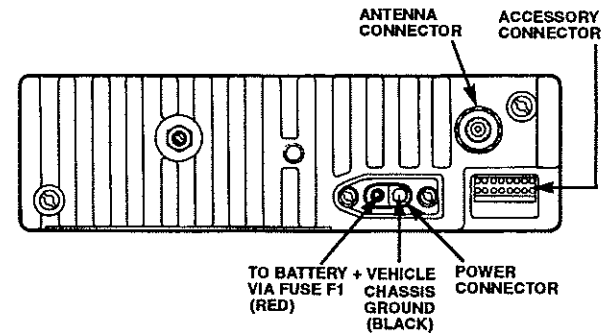

**Figure 2. Power Cable Assembly**
5. Install ring lugs (supplied) onto stripped end of power cable black lead, and onto stripped end of red lead on fuse holder as shown in Figure 2.
9. Plug fuse into in-line fuse holder as shown in Figure 2.